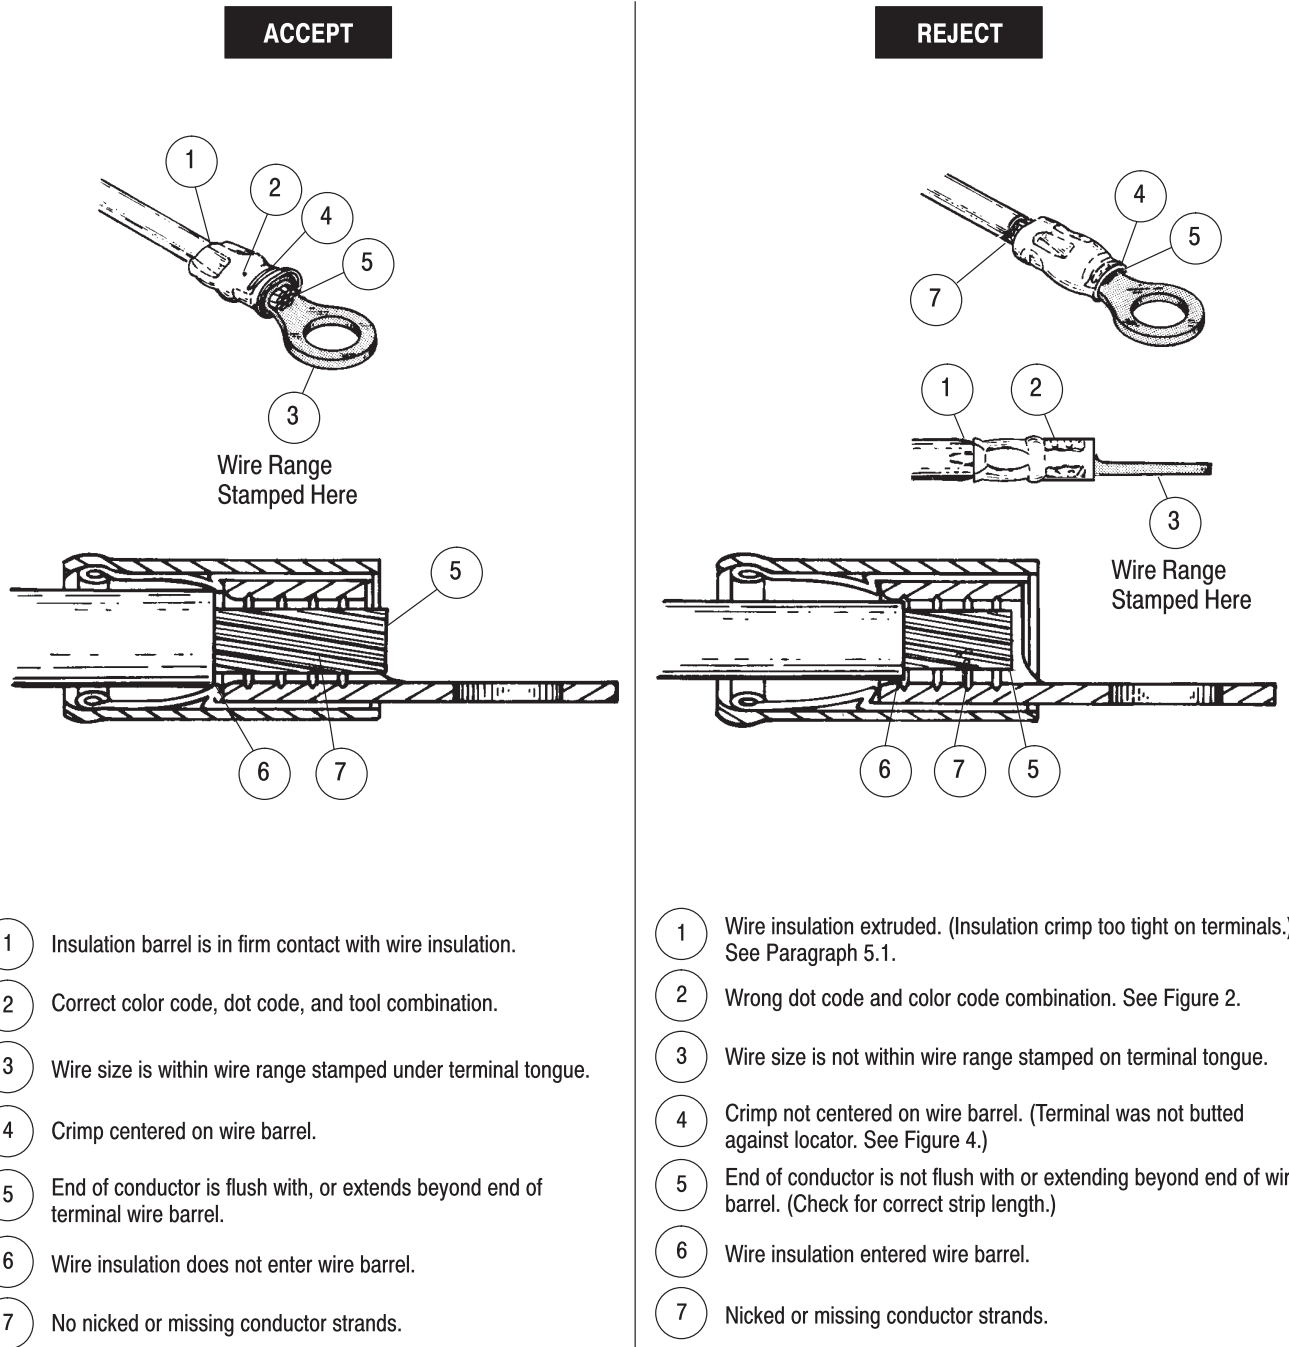

Figure 4
9. Refer to Section 4 and Figure 4 for terminal crimp inspection procedure.
Inspect crimped terminals by checking the features described in Figure 4. Terminals, not meeting the described conditions should NOT Be used.